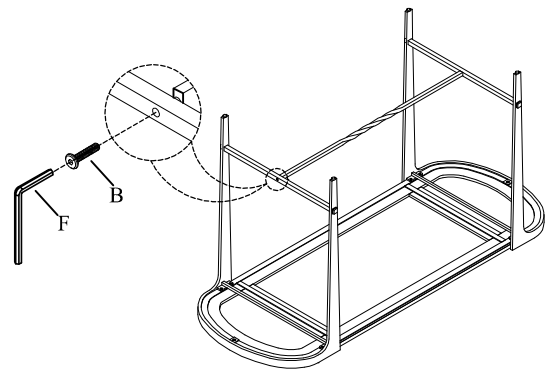

Fig 3
5. For safety purpose, we recommend fixing of Anti-tip kit (G) as shown in Fig 3.